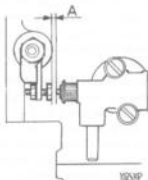

Fig. 2-130. Setting the hot start valve
14. Adjust the hot start valve. With the control rods (Fig. 2-130) pressed down to the bottom position, the distance (A) between rod and adjusting screw should be max 1.0 mm (0.04"). (Check to make sure that the control rods move without jamming.)